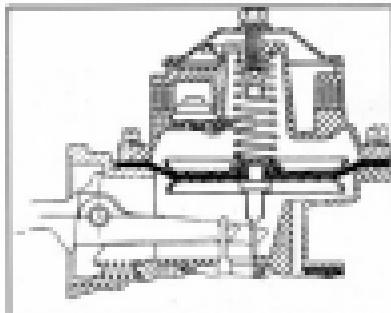

Fig. 232. Diaphragm Fixed in Correct Position for Proper Pump Operation.
4. Remove the tool which held the valve arm in position. The vacuum diaphragm spring will then push the diaphragm downward and this movement will automatically flex the correct amount of diaphragm cloth required for proper pump operation. When properly fixed, the outer edge of the diaphragm cloth should project evenly and be flush with (or slightly overhang) the edge of the body casting. (See Fig. 232)